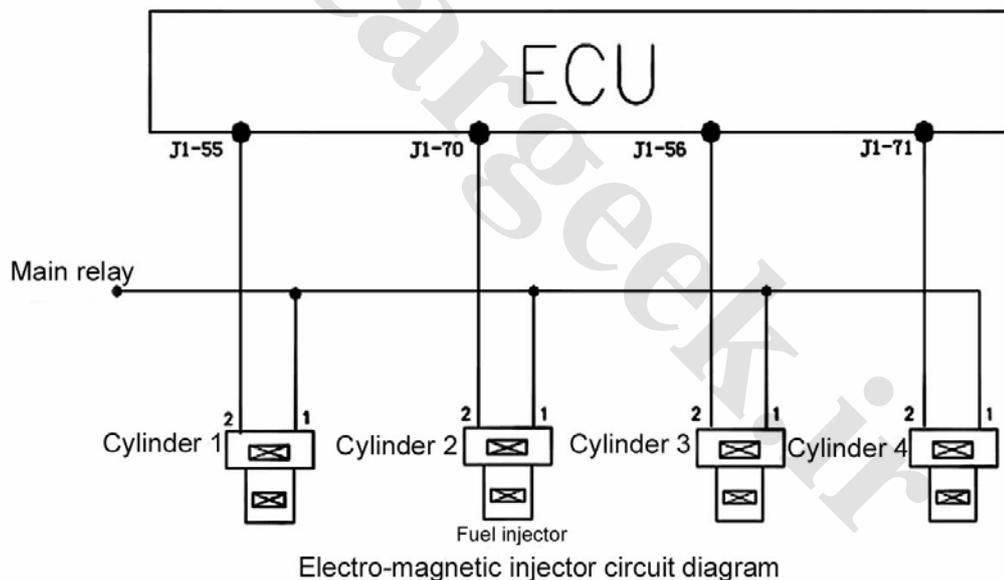

Fig1-14
(1) Function: According to the order from the ECU, the injector will carry out fuel injection and atomization within a required time for the engine
(2) Structure and principle: The ECU will send electric pulse to the fuel injector coil to form magnetic force. When the magnetic force is high enough to overcome the joint force of return spring pressure, pintle valve gravity, and friction, the pintle valve begins to rise and the fuel injection starts. The maximum rise of the pintle valve will not exceed 0.1mm. When the fuel injection pulse stops, the pressure of the return spring will close the pintle valve.
(3) Connection of the wiring diagram (Fig. 1-14)